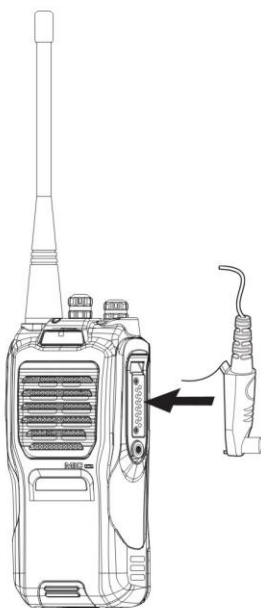

Figure 12
2. Plug the audio accessory firmly into the accessory jack, and then secure the screw, shown as figure 12.